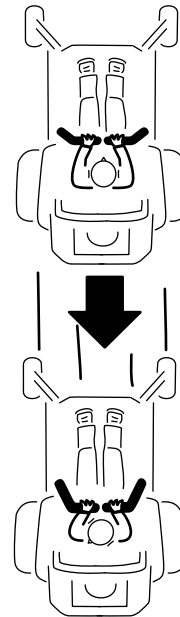

**Figure 22**
3. To go forward, slowly push the motion-control levers forward (Figure 22).